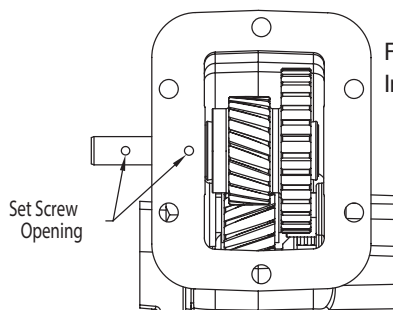
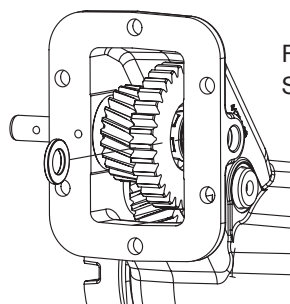

Figure 9 - Input Shaft & Input Gear Installation
Figure 10 - Bearing Spacer Installation
18. Place lubricated O-Ring's (26) into each of the grooves located on each side of the PTO housing (23).
19. Place the input gear (32) and tapered roller bearings (30) into the PTO housing and begin to tap in the input shaft (31) at the set screw side of the PTO housing (23) so the input shaft (31) will line up with the set screw once in place. See Figure 9.
20. Rotate the input gear 6 times to fully seat the tapered bearings. Continue to drive the input shaft (31) through the PTO housing until it is flush with the bearing in this assembly.
21. Insert the thickest bearing spacer (33) that can be installed by hand in the gap between the bearing and the housing. Remove the bearing spacer (33) and select the next thickest spacer and drive into the gap. Rotate the input gear (32) to make sure it properly rotates; the recommended bearing pre-load is .002" - .006" loose. See Figure 10.
22. When proper pre-load has been established, continue to install the input shaft (31) and then secure using the set screw (27). Torque the set screw to 5 ft.lb.